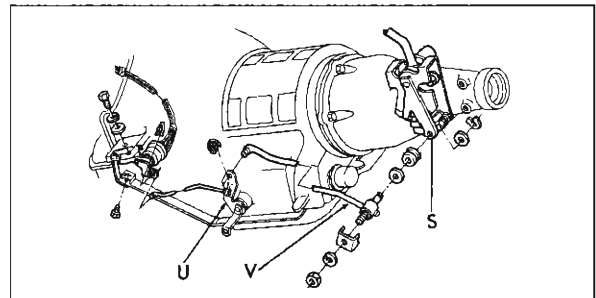

Fig. 3PG—Floor Shift Linkage Adjustment
2. Disconnect control rod (V) (fig. 3PG) at control shaft lever (S) by removing retainer nut from control rod swivel.
3. Set control rod bell crank (U) in park position.
4. Set control shaft lever (S) in park position.
5. With both bell crank and lever held in park position, adjust control rod (V) at swivel so that easy entry into lever (S) is obtained.
5. On models equipped with floor shift linkage, the neutral safety switch adjustment is made by varying the length of the bell crank (U) to switch control rod. A swivel is provided at one end of this rod to permit the adjustment (fig. 3PG).